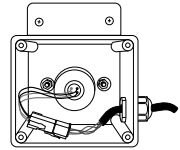

FIGURE 2
2. Once the UV bulb has cooled off remove the ClearRay unit enclosure cover (9) and gasket (8) by removing the four screws (10). This will expose the UV bulb and connections, Figure 2.